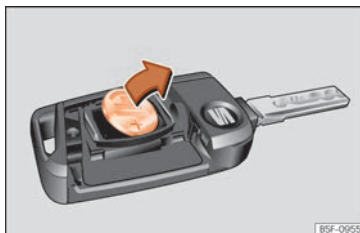

Fig.74 Vehicle key: removing the battery.
- Extract the battery from the compartment using a suitable thin object »» Fig. 74.
- Place the new battery in the compartment as shown »» Fig. 74, pressing in the opposite direction to that shown by the arrow »» ❷.